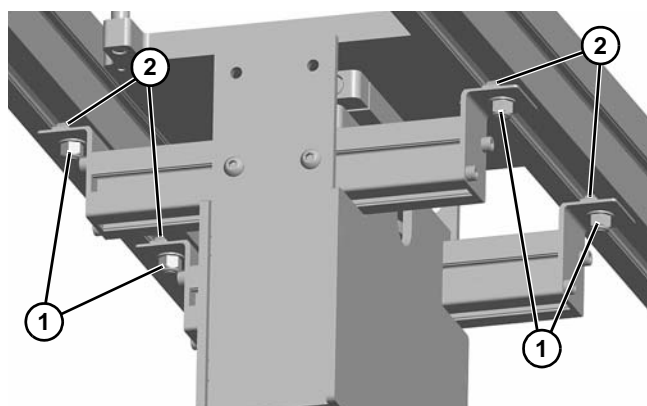

Figure 15
2. Tighten bolts (**Figure 15, item 1**) to follower nuts (**Figure 15, item 2**) inside channel.